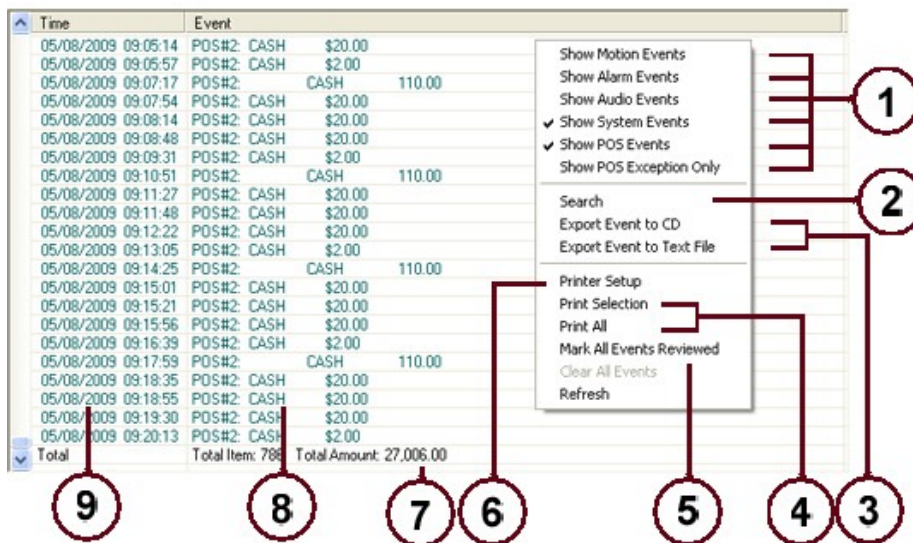

Figure 5-4 Bottom Panel with Event List
Selecting Search (Figure 5-4 (2)) in the Additional Options pop-up menu for the Event List opens up the Search Event Window: